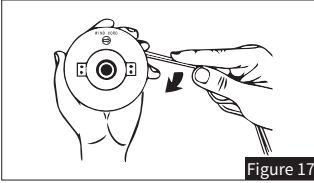

Figure 17
- Place the spool cover on the new line spool. Turn it so that the tabs of the spool cover engage with the springs in the line spool housing (see Figure 17).
- Re-insert and hand-tighten the screw (Figure 17, Item d).